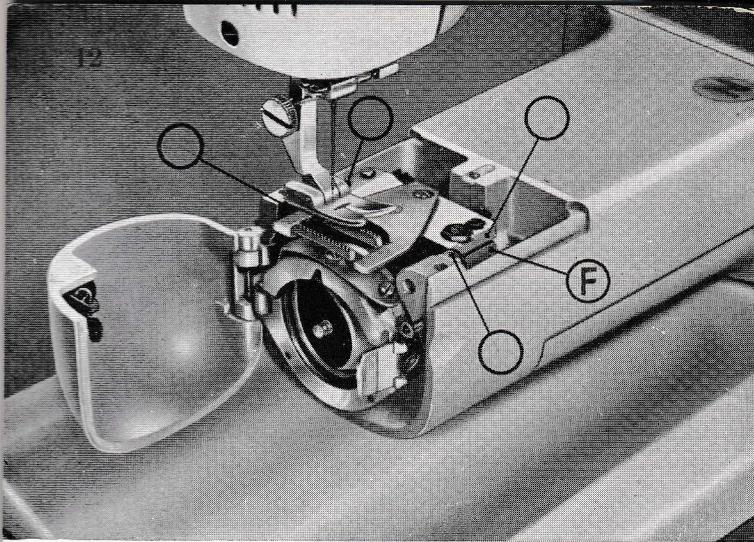

Fig. 5
- Open the shutter, remove the needle plate (see instructions on page 15) and squeeze a few drops of oil onto the points indicated in Fig. 5, including felt F.